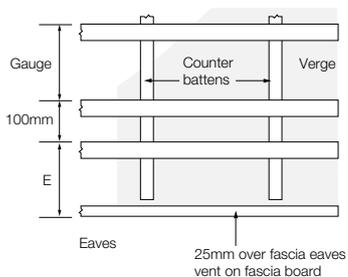

Fig. 6 Batten configuration at eaves.
- Set out both under-eaves battens to accommodate the under eaves slate lengths as shown in the table below and Fig. 6 below by allowing a maximum of 50mm overhang of the slate beyond the face of the fascia.